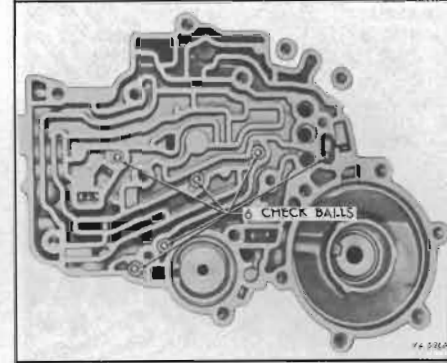

Figure 74-526
8. Remove six (6) check balls from cored passages in transmission case. See Figure 74-526.